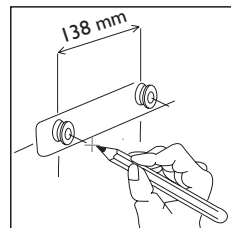

fig. 2
2. Before drilling the wall, mark out a template following carefully the dimensions as shown in fig.2.